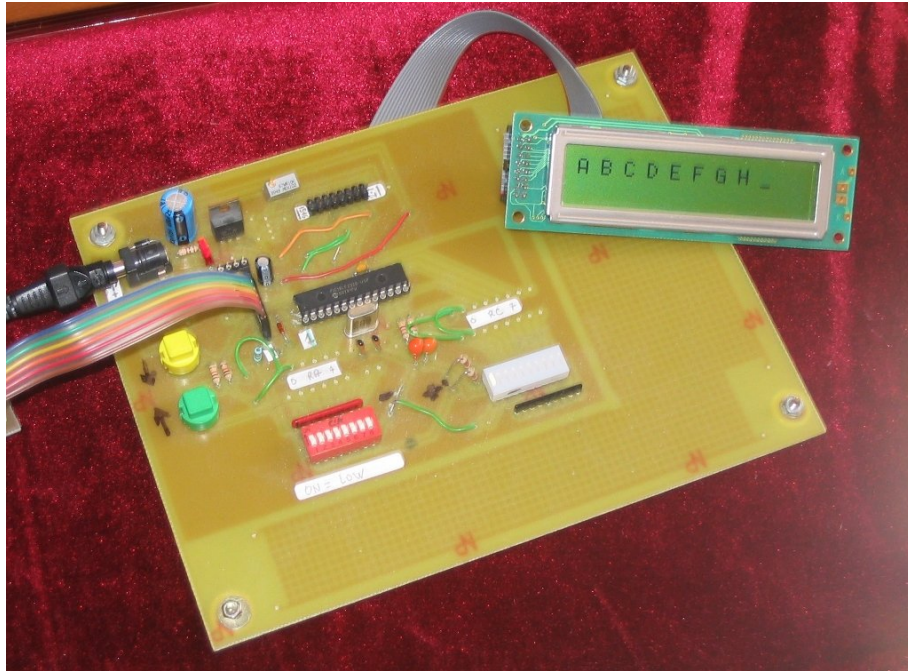

Figure 1: Result of the very first program compiled by `cpik` ever executed
- Any source library is a simple text file, so it can be manually written in assembly language, using a standard text editor (this point is important to bootstrap a totally new development environment). For example, the LCD library has been developped from scratch with a text editor as unique tool, and used to support the very first program¹ compiled with `cpik` ever executed (see figure 1).